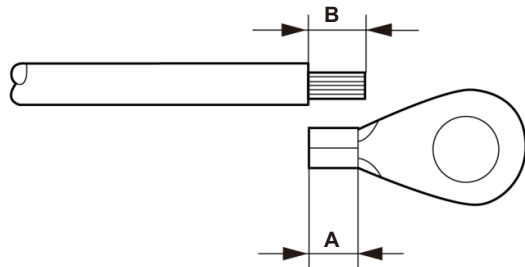

Figure 3.15 Suitable length
- 3) Strip the ground cable insulation to a suitable length(see Figure 3.15).